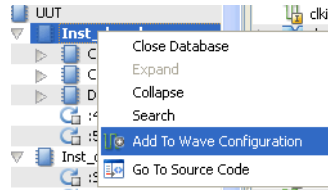

Figure 4-21: Add to Wave Configuration
- Highlight the “Inst\_drp\_dcm” design unit in the Instance and Process panel, then right-click on the input/output ports in the Objects panel. Select **Add to Wave Configuration** from the context menu. (Refer to Figure 4-21.)